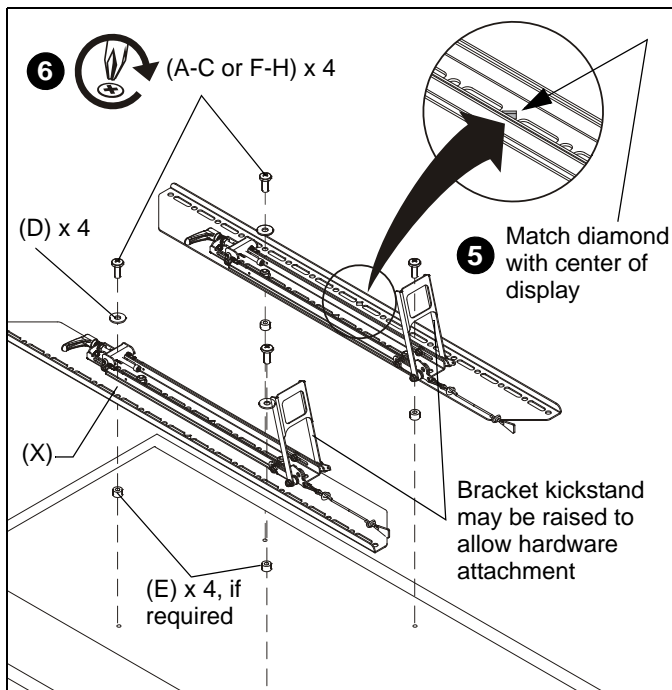

Figure 12
2. Select screw *diameter* by examining hardware (A-C and F-H) (6mm or 8mm) and comparing with mounting holes on display. (See Figure 12)
- Spacers are **NOT** required if mounting holes are not recessed and interface brackets (X) can lay flat against display.
- Spacers (E) **ARE** required if mounting holes are recessed, or if protrusions prevent interface brackets (X) from laying flat.
4. Select screw *length*: (See Figure 12)
- By hand, insert **SHORTEST** length screw of selected diameter (A or F) through 3/16" washer (D, if using screw A), bracket (X), selected spacer (E, if required), into display mounting hole. Do NOT thread screw into hole at this time.
5. Make sure diamond on interface brackets is even with center of display. (See Figure 12)
6. Use selected screws (A-C or F-H), washers (D, if using screws A, B or C) and spacers (E), if necessary, to connect interface brackets (X) to back of display. (See Figure 12)